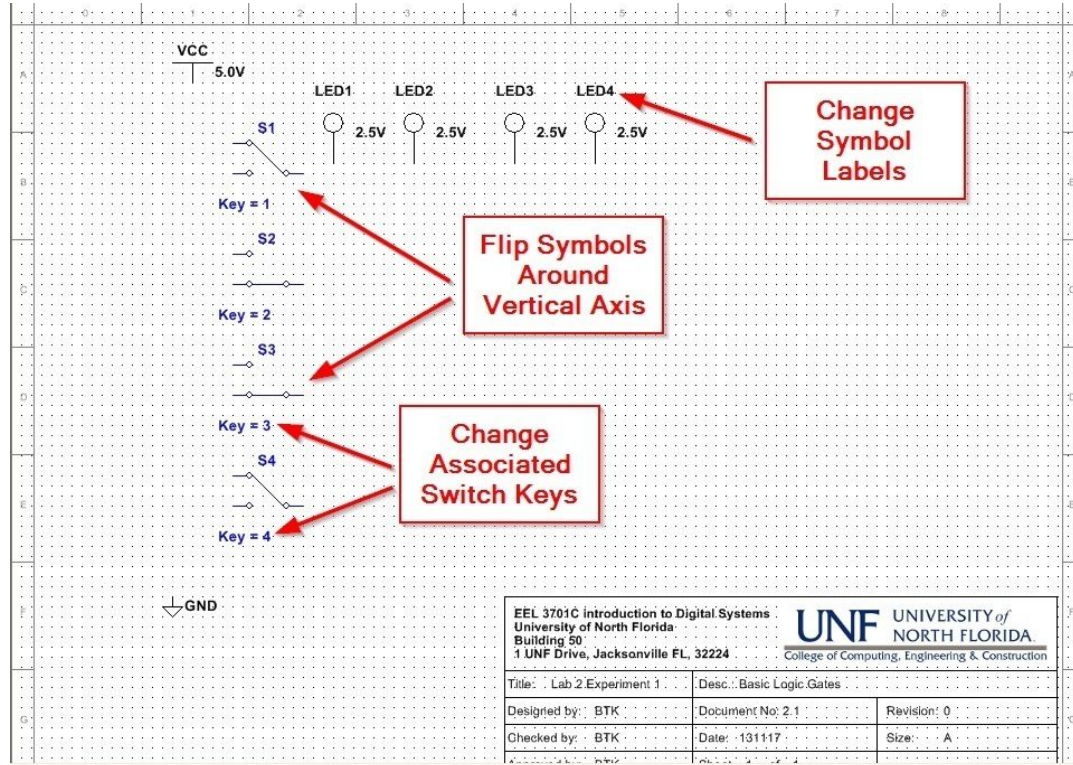

Figure 4. Customizing symbol layout and labels.
- 11) Carefully click near a symbol until a dashed box appears around the symbol. This indicates you have selected the object. Now you can move the object and reposition it. Adjust the symbols so they are oriented as shown in Figure 4. Now right-click on each PROBE_BLUE symbol and select properties. On the label tab of the pop-up window change the RefDes to “LED1” (or 2, 3, or 4). This will change the displayed name of the LED (and also rename it for simulation purposes).
- 13) The switches will be used interactively during the simulation. It is possible to toggle the switches during a simulation by pressing a key on the keyboard. Note under each switch symbol the label “Key = Space”. This indicates that each switch is toggled (from one switch position to the other) by pressing the space bar during a simulation. Since all four switches are all labeled “Key = Space”, all four switches will be toggled at the same time when the space bar is clicked. If you right-click on a switch and select properties, under the value tab the “Key for Toggle” menu selection will allow you to change what key is used. Change the key for each switch as indicated in Figure 4.